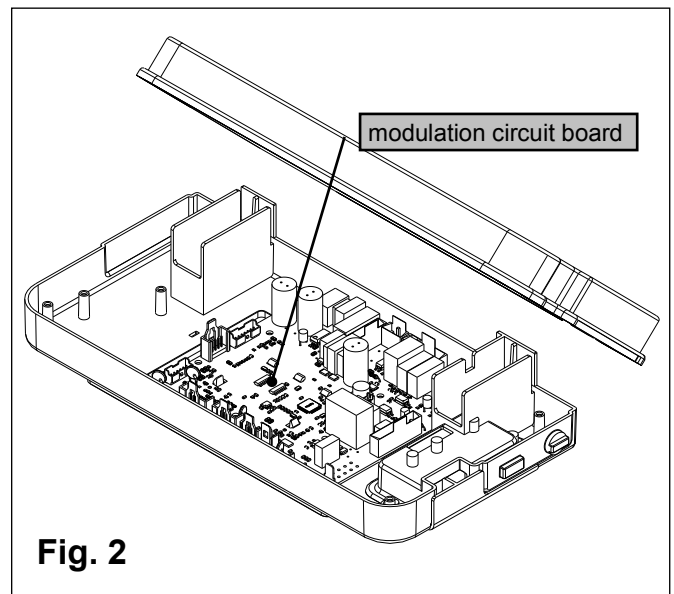

**Fig. 1**
**Diverter valve** (see fig. 1)